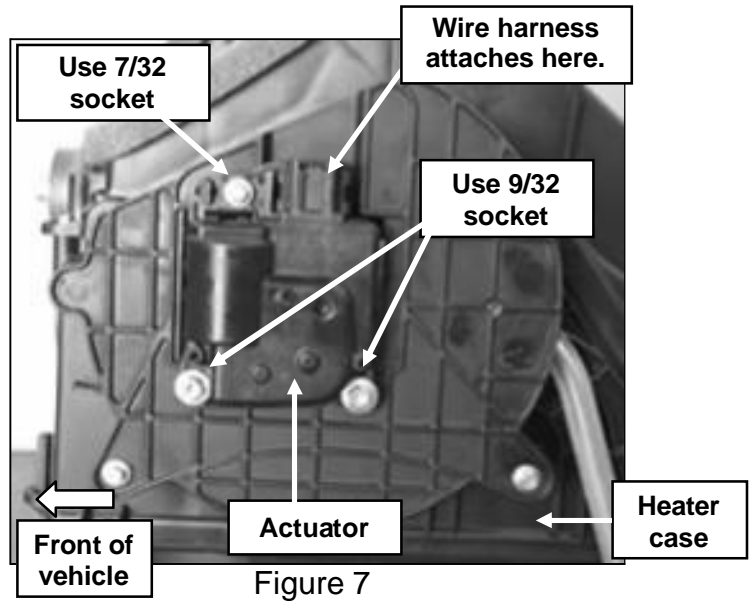

Figure 7
12. Disconnect the wire harness from the "actuator" (defroster door motor). See Figure 7.
- a. Using a 9/32 socket, remove 2 bolts at the bottom of the actuator (see Figure 7).
- b. Using a 7/32 socket, remove the bolt at the top of the actuator (see Figure 7).